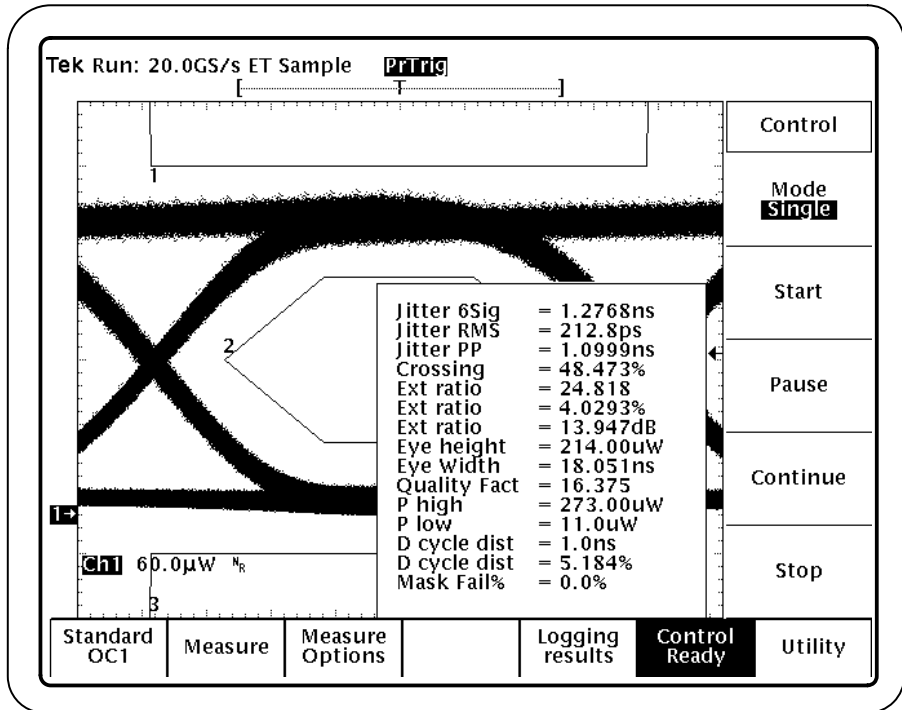

Figure 13: Results readout for all measurements
- To take the measurement, press Control (main) → Start (side). Figure 13 shows the Results readout for all the measurements.